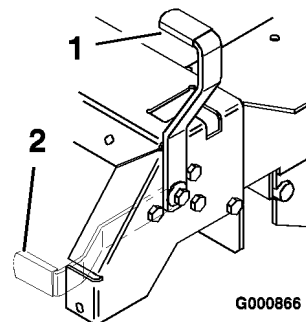

Figure 7
2. Pull back and up on the parking brake lever to set the parking brake (Figure 7). The parking brake lever should stay firmly in the Engaged position.
Push forward and down on the parking brake lever to release the parking brake (Figure 7).